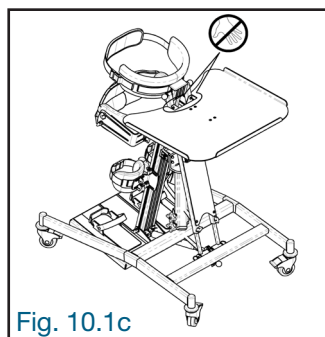

Fig. 10.1c
- When adjusting the table horizontally, DO NOT place fingers and hands between the back of the table (A) and the stabilizer platform (B) (Fig. 10.1c).